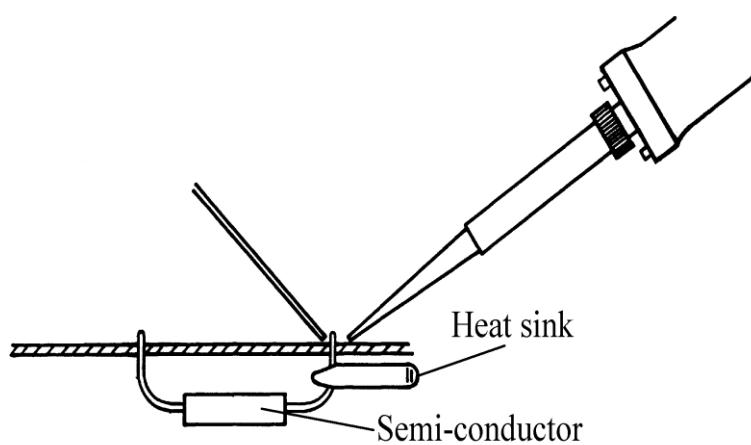

Figure 4
- Use a heat sink as shown in Fig. 4 when recommended. Heat sinks should always be used on component terminal wires between the joint being soldered and the body of the component. They prevent damage to the component due to overheating (i.e. when soldering semi-conductors).